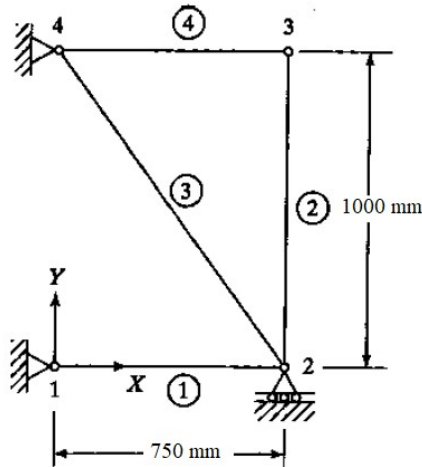

Figure 1
7. For the truss in Figure 1 below, a horizontal load of 10 kN is applied in x-direction at node 2. Also consider $E = 207 \text{ GPa}$ and $A = 960 \text{ mm}^2$ for each member. Now determine the global stiffness matrix for the problem and also write the load matrix, deflection matrix and FEA formulation.